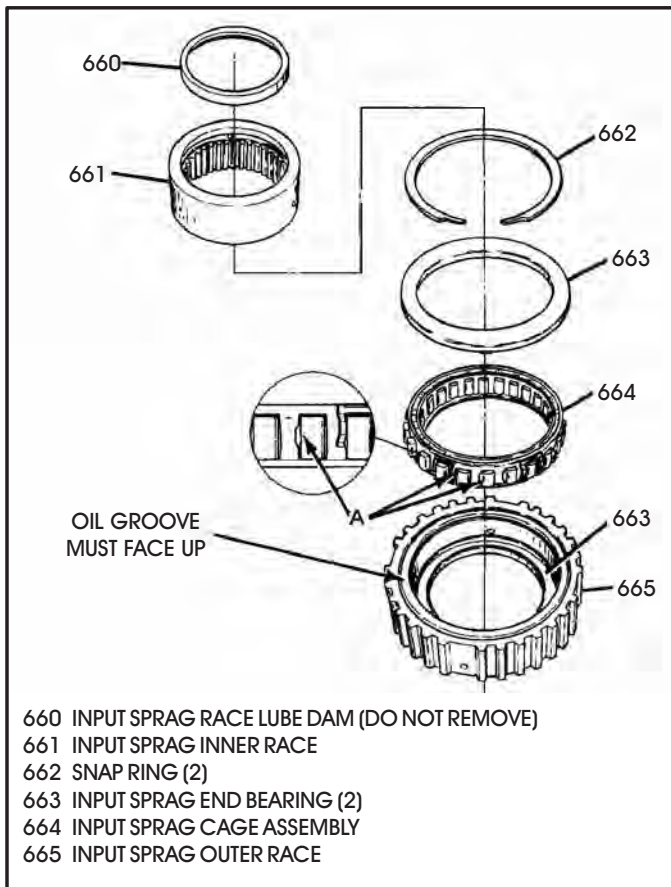

Figure 109
4. Install snap ring into groove in input sprag race on opposite side of lube groove, as shown in Figure 109.
5. Install one end bearing with groove facing up, as shown in Figure 109.
6. Install input sprag cage assembly, with the "windows" to the left as shown in Figure 109.
7. Install the other end bearing with the groove facing down, as shown in Figure 109.
8. Install the other snap ring into groove in input sprag outer race (See Figure 109).